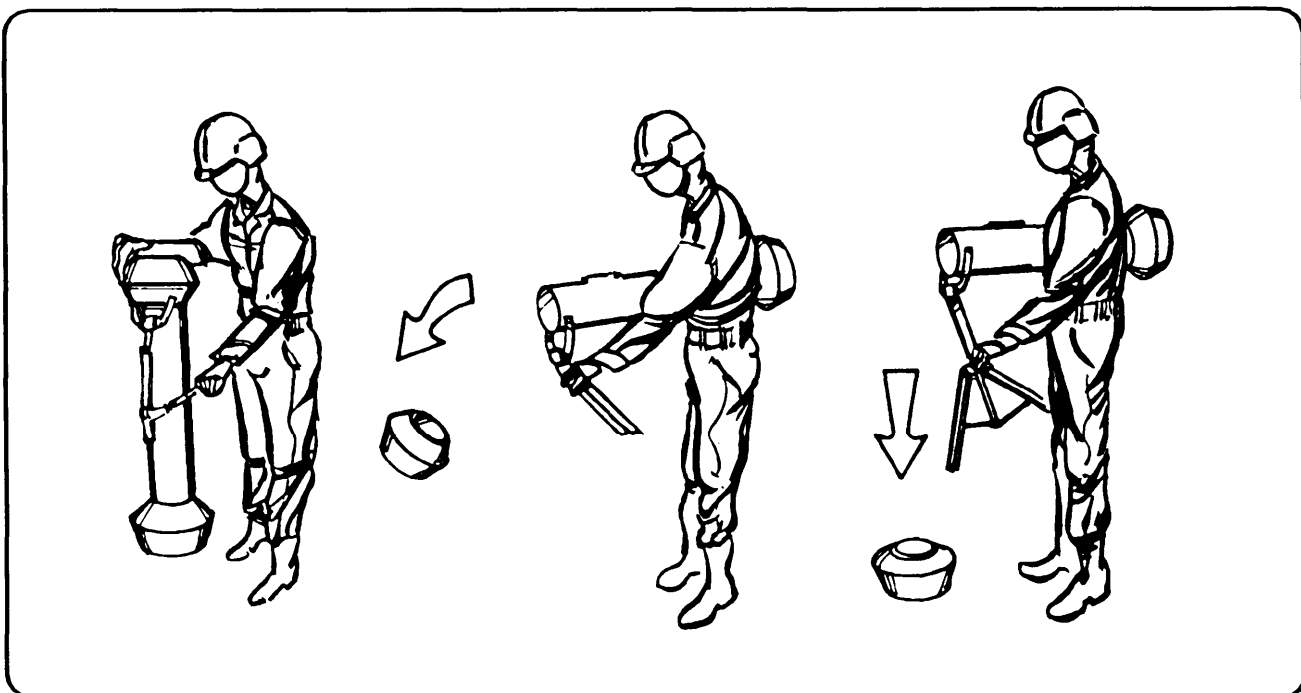

Figure 4-2. Releasing the bipod.
a. **Releasing the Bipod.** Unsnap the biped retaining strap (A, Figure 4-2). Push the biped forward until resistance is met. Then, snap off the forward shock absorber. Ensure that the desiccant bag, attached to the forward shock absorber, is not lodged in the launch tube (B, Figure 4-2). While still holding the round, depress the biped friction lock. Push the biped legs downward to number 4 or 5, then release the friction lock (C, Figure 4-2).